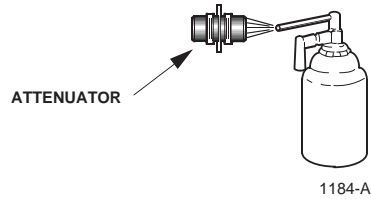

Figure 507-3. Cleaning SC and FC Attenuators
7. Clean attenuators with clean dry compressed air only. Do not use a moistened wipe or pipe cleaner. See **Figure 507-3**.